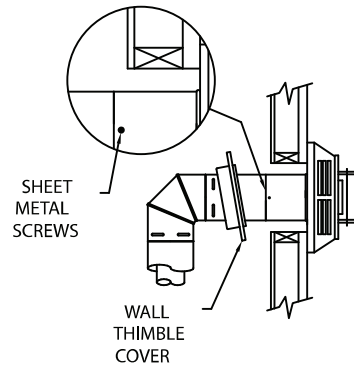

Figure 8
(1) The four wood screws provided should be replaced with appropriate fasteners for use on brick, concrete, block, or other types of sidings.
(2) For buildings with vinyl siding or other surfaces, the Vinyl Siding Standoff or Counter Flashing is available.
Step 5. Before connecting your horizontal Pipe Sections to the Horizontal Termination Cap, slide the Wall Thimble Cover over the Pipe Section nearest the interior side of wall (**Fig. 8**).
of 1-1/4 inches. Use the two sheet metal screws provided to secure the Pipe Section to the back of the Termination Cap. The Wall Thimble Cover will cover the screw heads (**Fig. 8**).